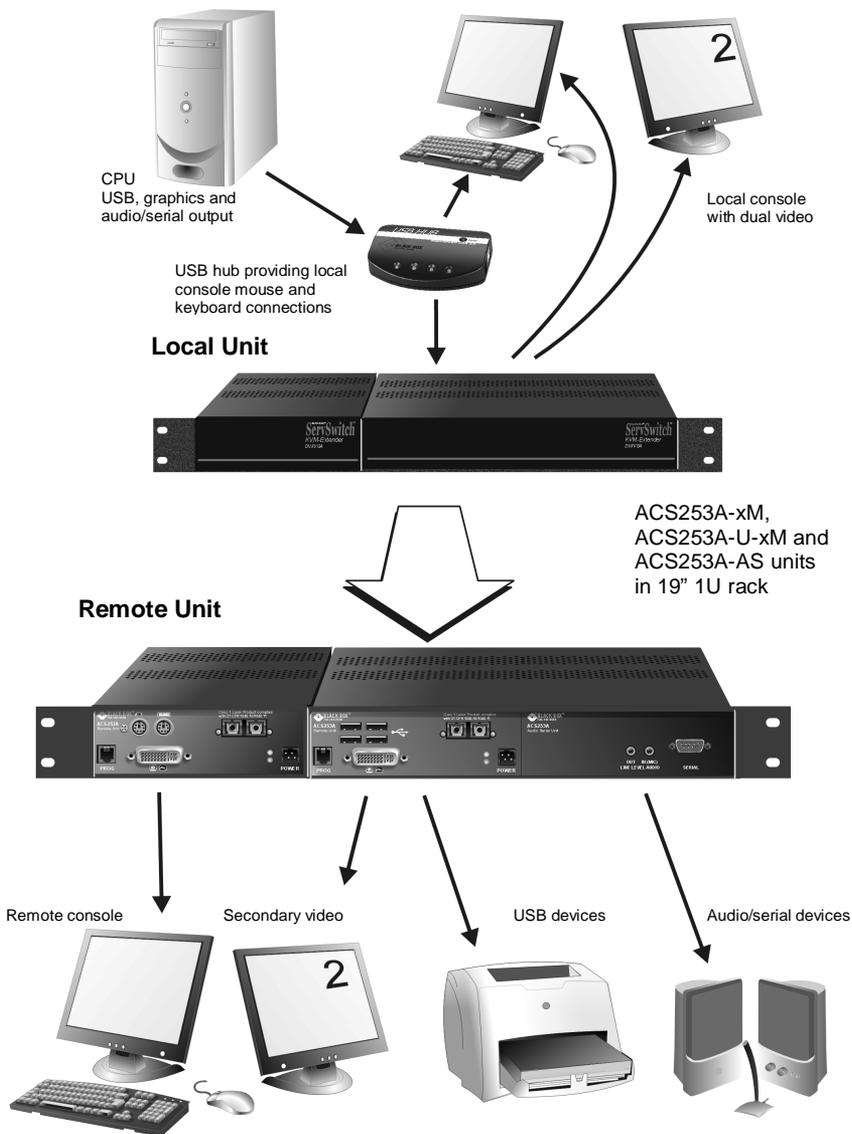

Figure 23 Dual Head application with PS/2, USB and audio/serial extension
- Dual Head application with PS2 keyboard/mouse, USB support and audio/serial in 19"/1U (Figure 23).